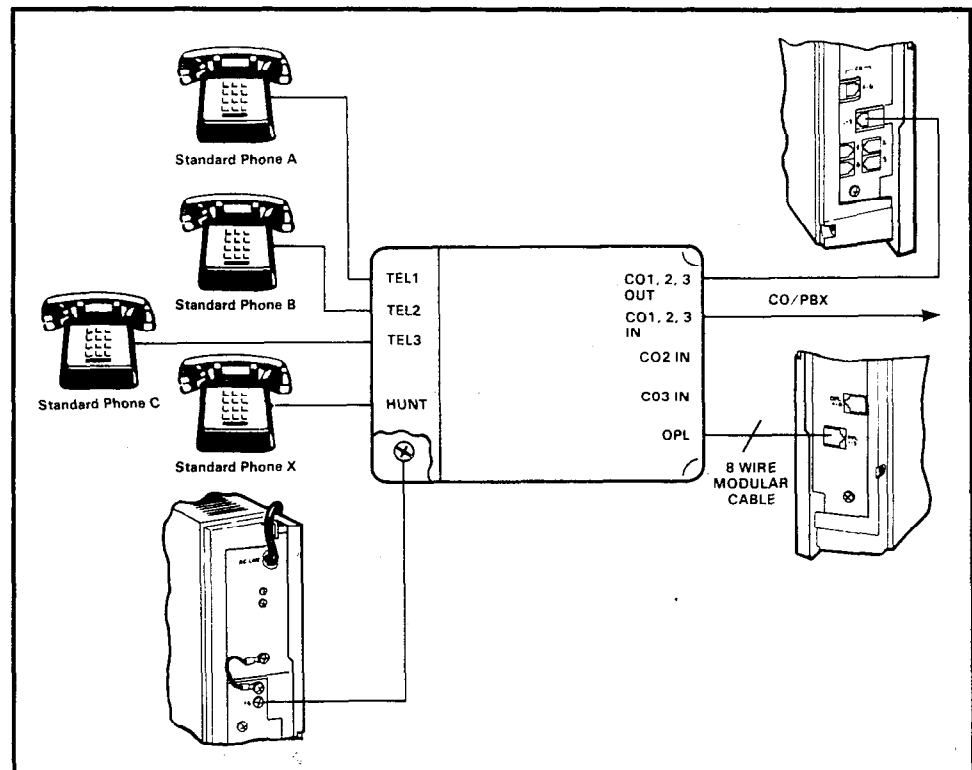

FIGURE 20—HOLB WIRING
1, 2 and 3 (RJ-25C) or 1, 2 or 3 (RJ-11C) are connected to the CO 1, 2, 3 (or CO 1, CO 2 or CO 3) in connectors on the HOLB unit. Then, connect a 6-wire cable from the HOLB to the CO 1-3 connector on the right side panel of the HKSU. An 8-wire factory-provided cable is connected from the HOLB 1-3 connector (on the HKSU left side panel) to the HOLB unit. Connect up to three conventional, single-line telephones to the modular connectors (TEL 1, 2, 3) on the HOLB (Figure 20).
06.63 A single answering machine connected to OPL circuit #1 will also serve OPL circuit #2 and/or #3. An HOLB is equipped with a chain of relay contacts (Figure 20) that, operating under software control via **Program 0#9**, can switch incoming calls on CO circuits #2 and/or #3 to the OPL #1 output circuit. This hunting operates only during NITE service and can occur only with the three circuits appearing on the PCB; and it always occurs from #3 and/or #2 to #1. (It is not possible to chain two HOLB PCBs together.)